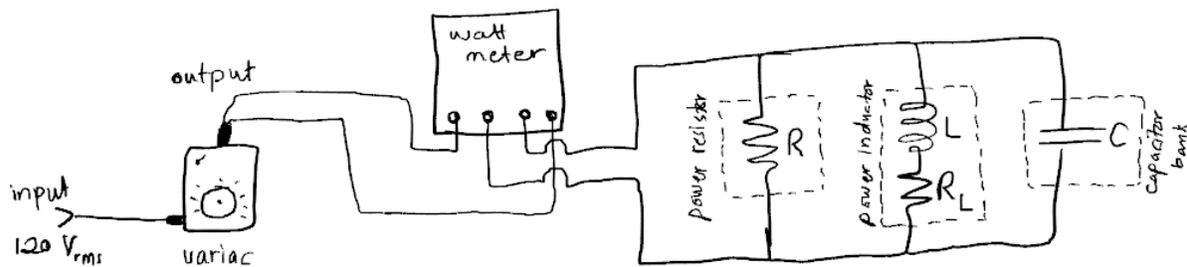

Figure 1
6. Perform a PSpice simulation of the circuit in Fig. 1. The outputs of the simulation should at least contain:
a) The objectives are to build a parallel combination of a resistor, inductor, and capacitor fed by a 40-Vrms voltage from the variac, as shown in Fig. 1 below, then measure the current through, voltage across, and consumed power for each branch of this parallel circuit and for the circuit as a whole. As a first step, construct the circuit below but don't turn on the variac yet.
- h) Modify the configuration of Fig. 1 to take the measurements of the branch with the inductor referring to your circuit diagram from the prelab. Follow the steps (d), (e), and (f) to accomplish your measurements.
- i) Modify the configuration of Fig. 1 to take the measurements of the branch with the capacitor referring to your circuit diagram from the prelab. Follow the steps (d), (e), and (f) to accomplish your measurements.